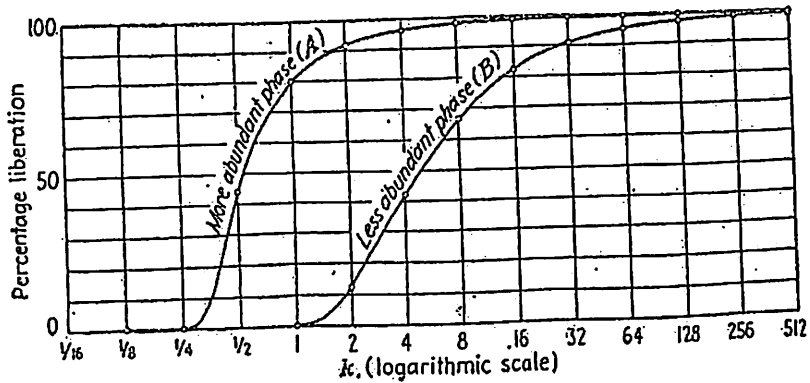

Figure 1.0 Percentage liberation of phases A & B ($A > B$)
- (a) Figure 1.0 shows the abundances of minerals A and B plotted on a linear – log scale of percentage liberation versus k at uniform particle size. This figure was obtained for a value of $n = 25$.
- i. Discuss the information depicted by Figure 1.0.